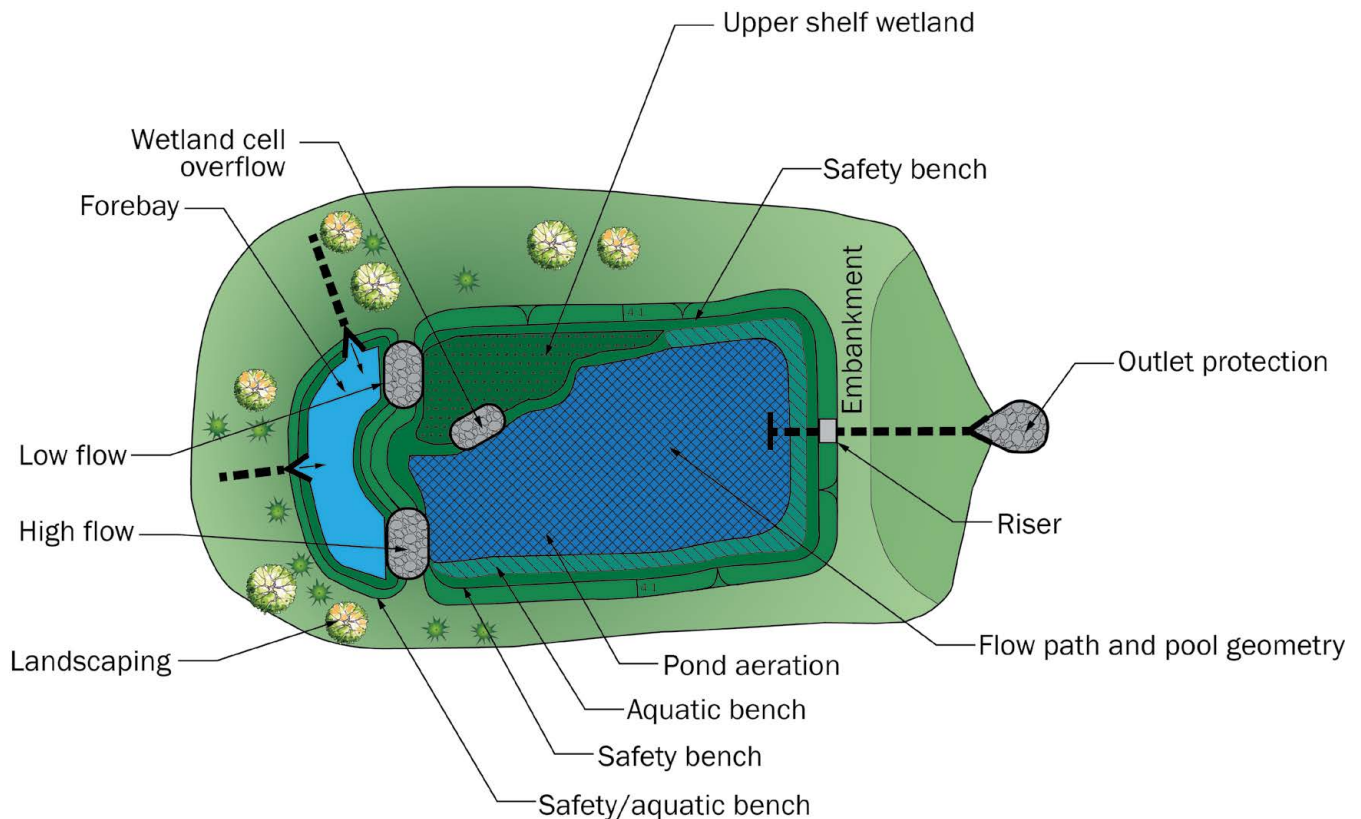

Figure 2.0.2. Basins are in-ground structures used to hold water.
- **2.2 Basins** are in-ground structures that hold water (Figure 2.0.2). Basins collect stormwater that can be used immediately or released as needed, help sediment settle out of water before it is used for drinking purposes, or direct and control water flow.